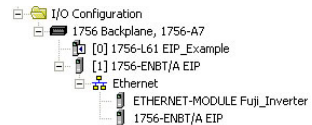

Figure 83: I/O Configuration Tree
- 6) After adding the I/O Module to the configuration, the full I/O Configuration tree should appear similar to Figure 83.